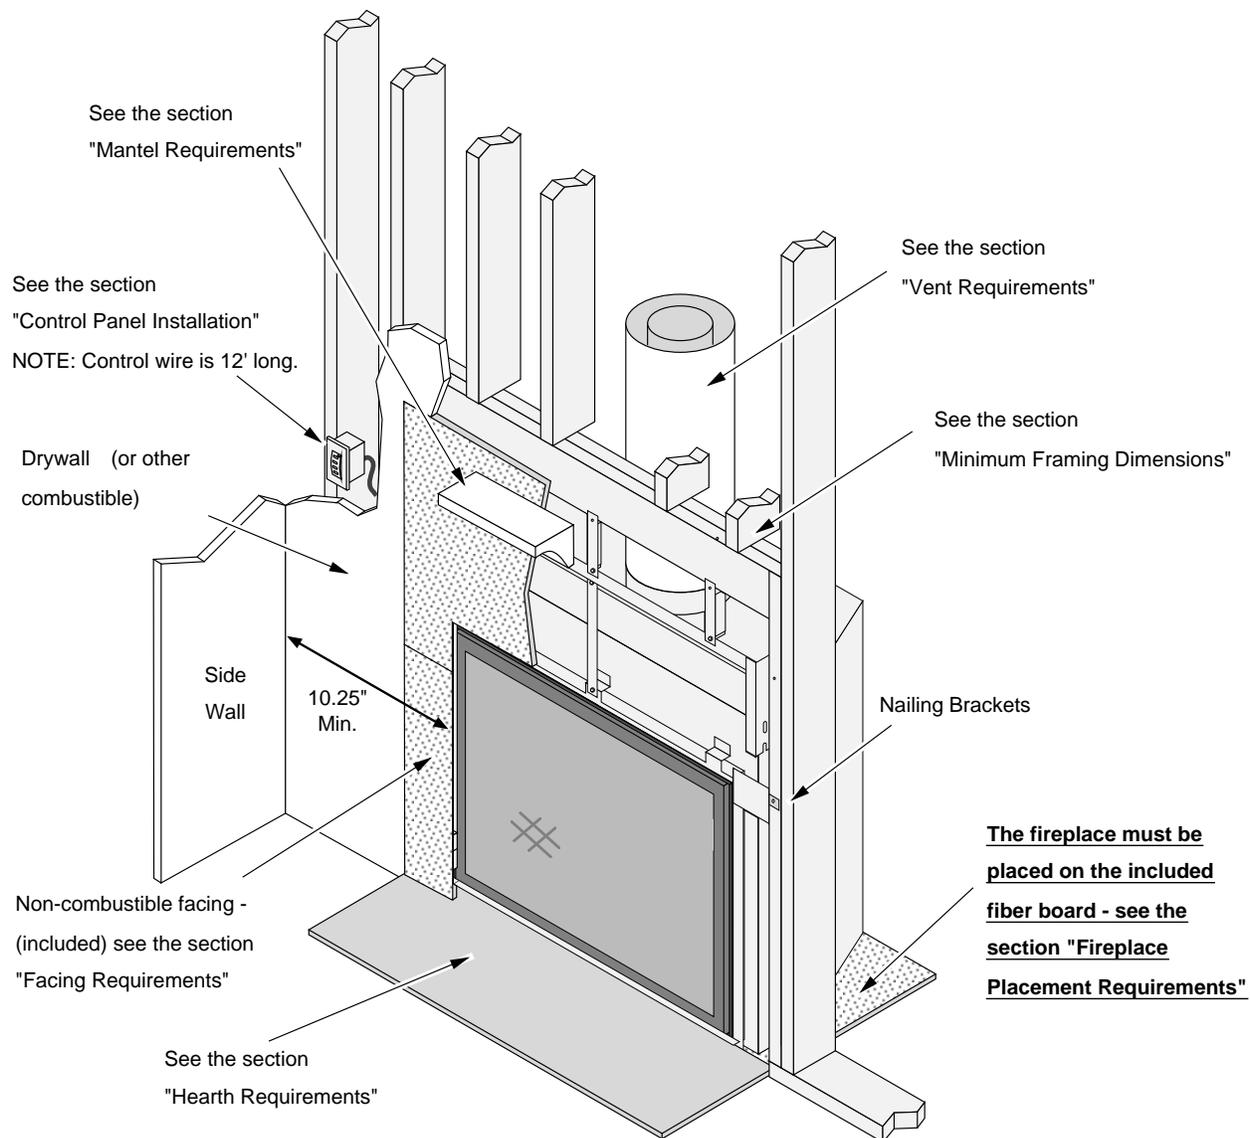

Figure 3
- When installed, walls in front of the fireplace must be a minimum 10-1/4" from the glass frame (4-1/4" from the side stand-offs - see Figure 3).